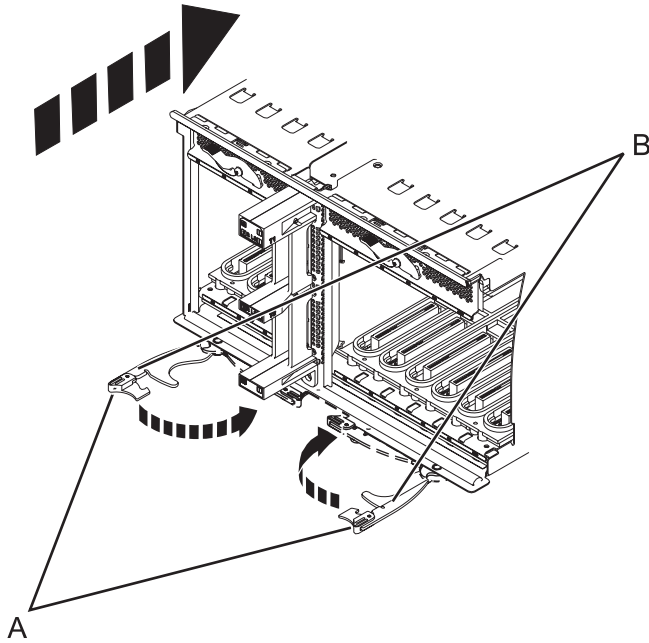

Figure 71. Install the I/O system board on a rack-mounted model
8. Insert the I/O system board firmly into the server, as shown in Figure 71.
9. Secure the I/O system board with the locking tabs **(A)**, as shown in Figure 71.